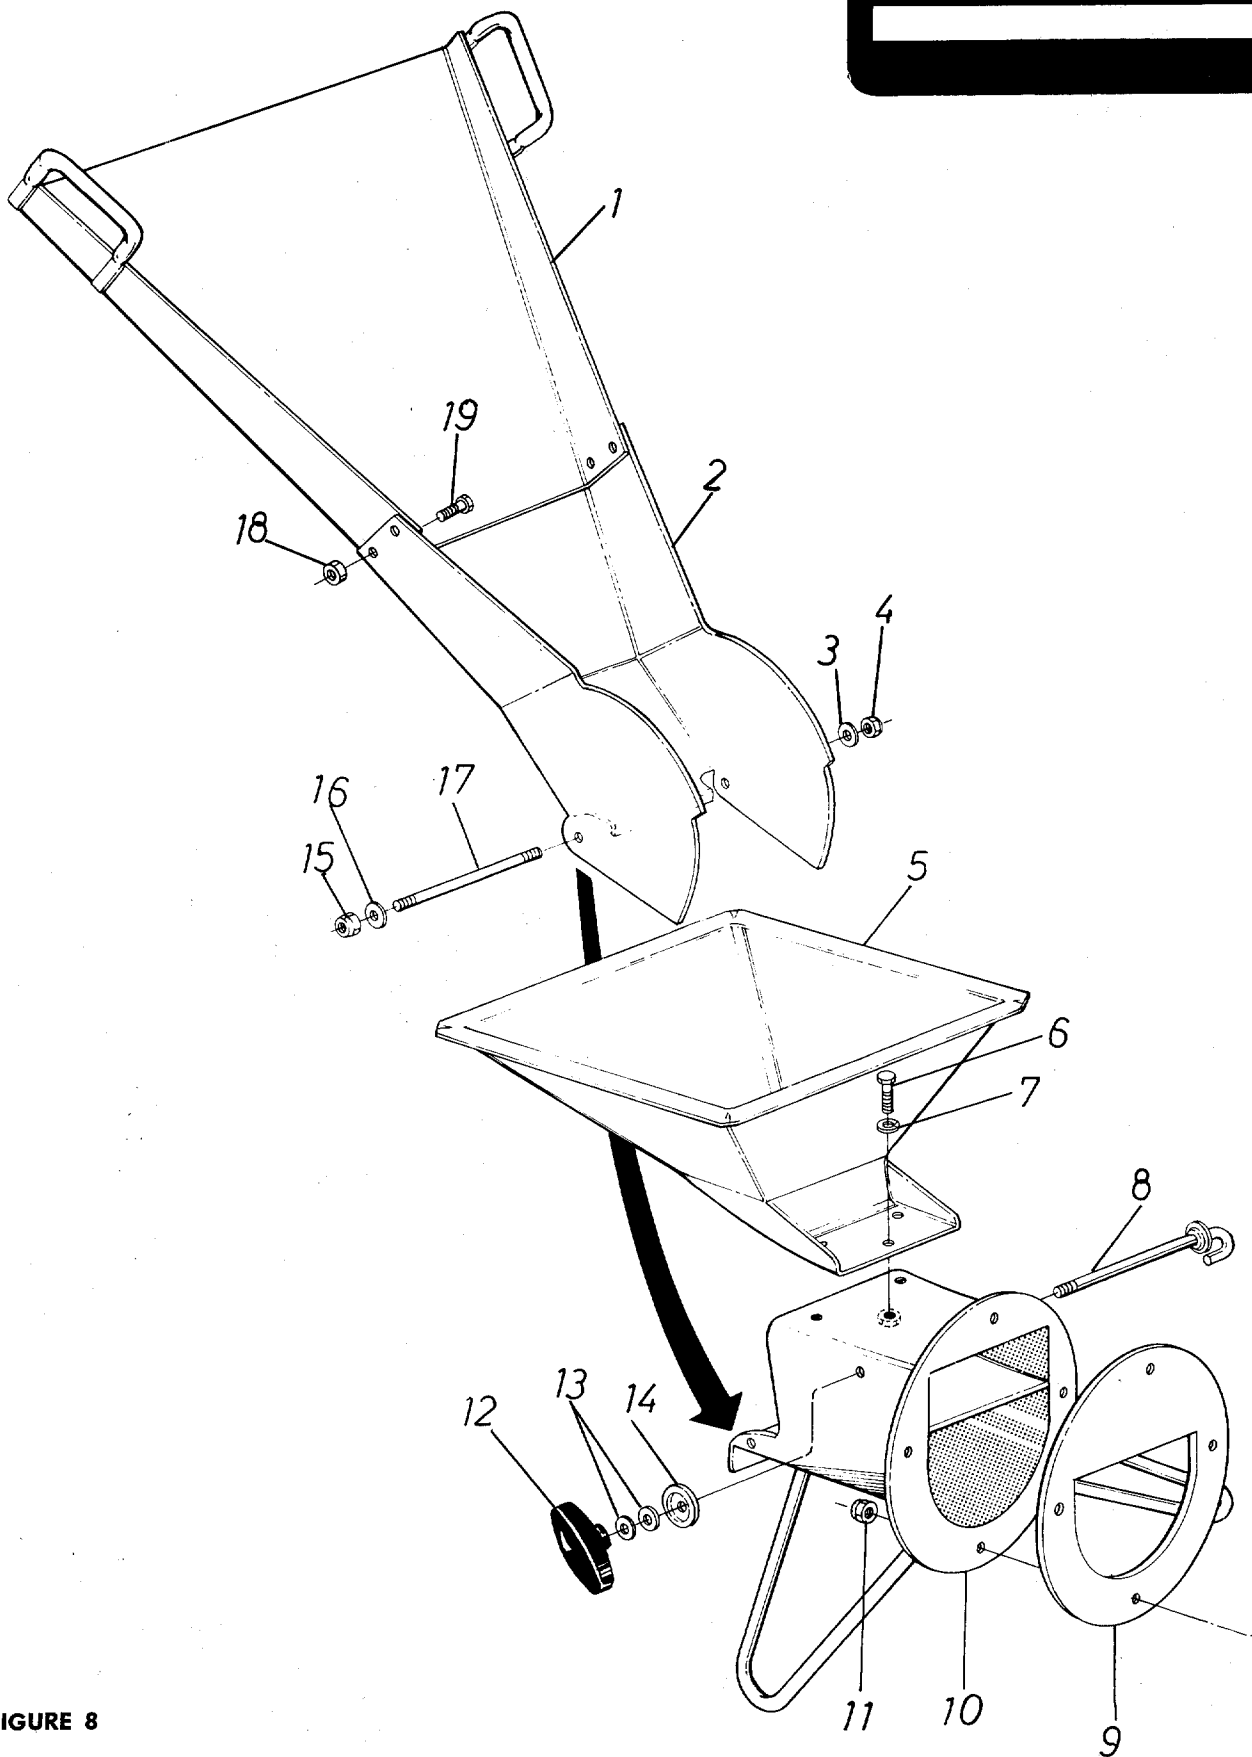

FIGURE 8
1. Remove guide extension assembly by removing four elastic locknuts (Ref. No. 11). See figure 8.
PARTS LIST FOR FIGURE 8 MODEL 244-650A